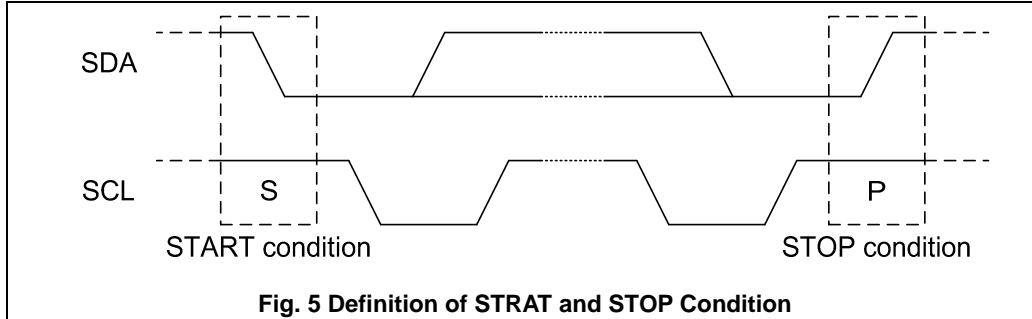

Fig. 5 Definition of STRAT and STOP Condition
Both SDA and SCL lines remain HIGH when the bus is not busy. A HIGH-to-LOW transition of SDA, while SCL is HIGH is defined as the START condition (S). A LOW-to-HIGH transition of SDA while SCL is HIGH is defined as the STOP condition (P). The START and STOP conditions are illustrated in Fig 5.